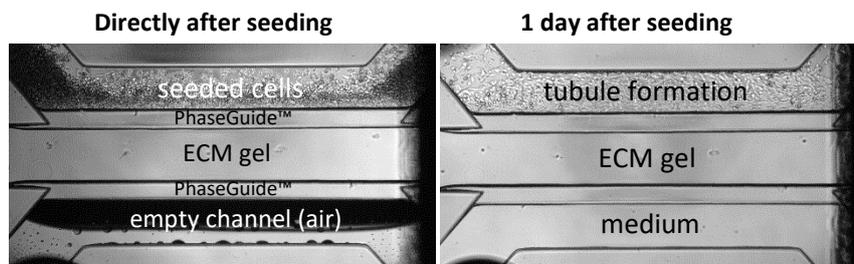

Figure 8: Kidney epithelial cells form a tubule against an ECM gel in the OrganoPlate® 3-lane
- a. For examples of dried out gel, see section *Trouble Shooting, figure 8*.
An example of a tubule culture against ECM in the OrganoPlate® 3-lane is shown in figure 8.